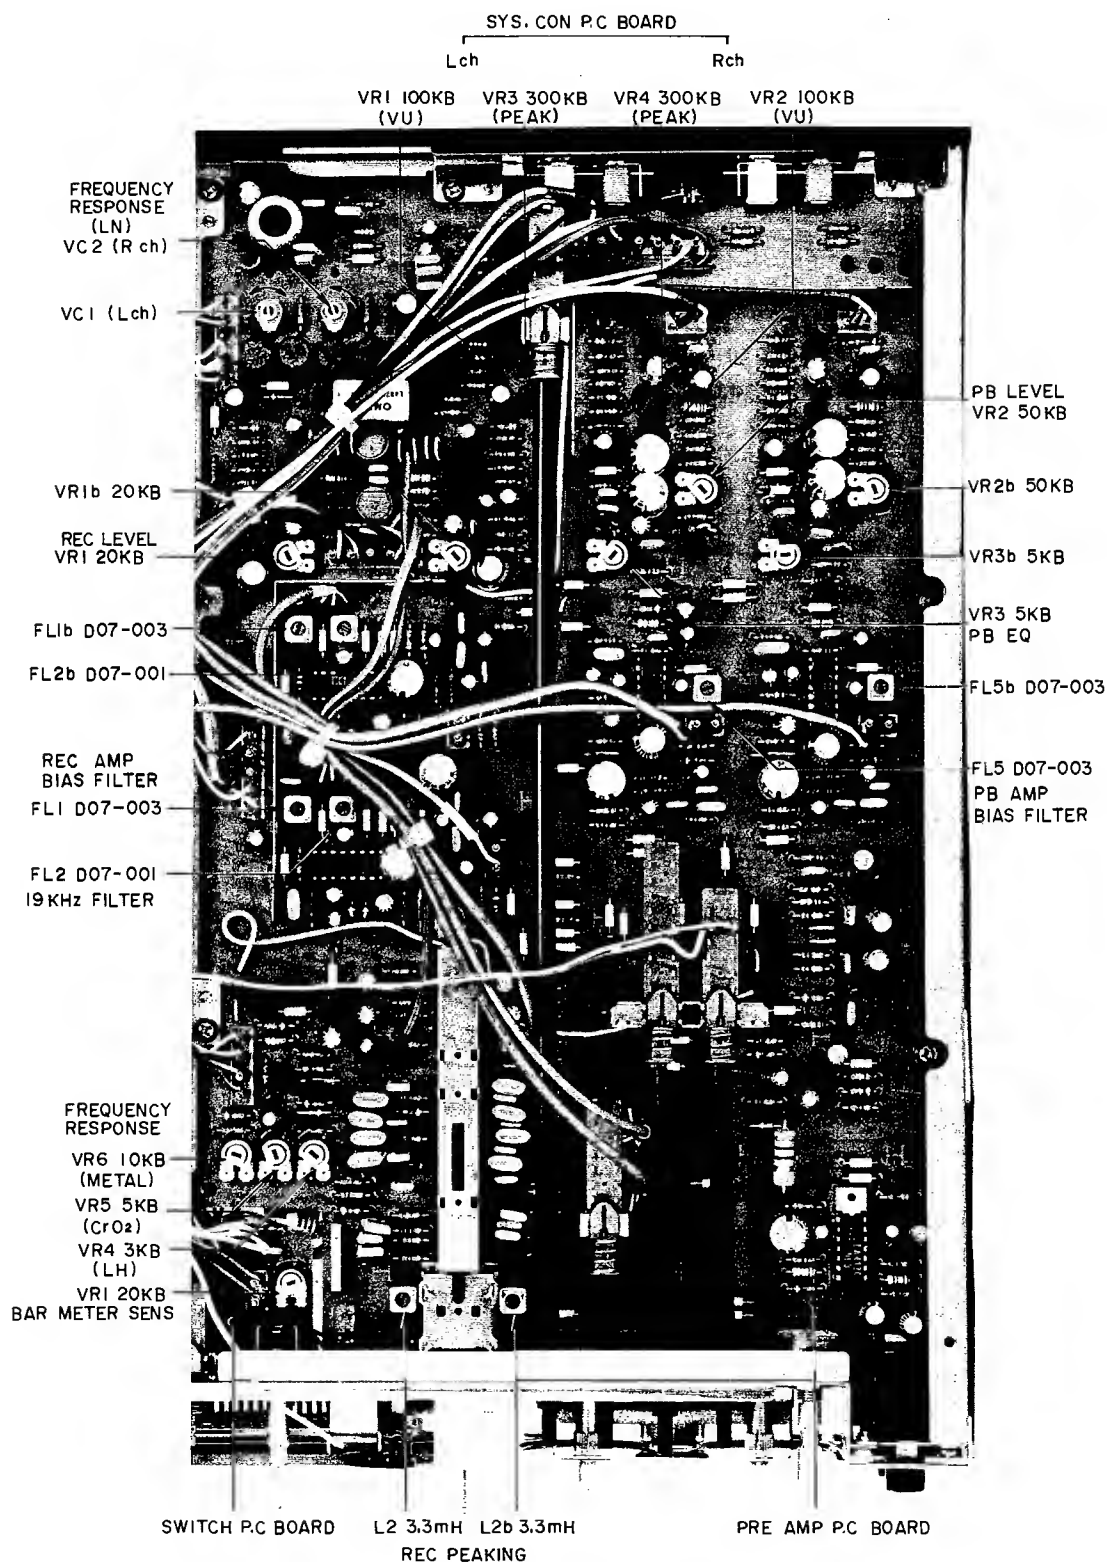

Fig. 24 Amplifier Adjustment Point
1. AMPLIFIER ADJUSTMENT (Refer to Figs. 24, 25, 26)
2. BAR METER ADJUSTMENT (Refer to Figs. 24, 27, 28)